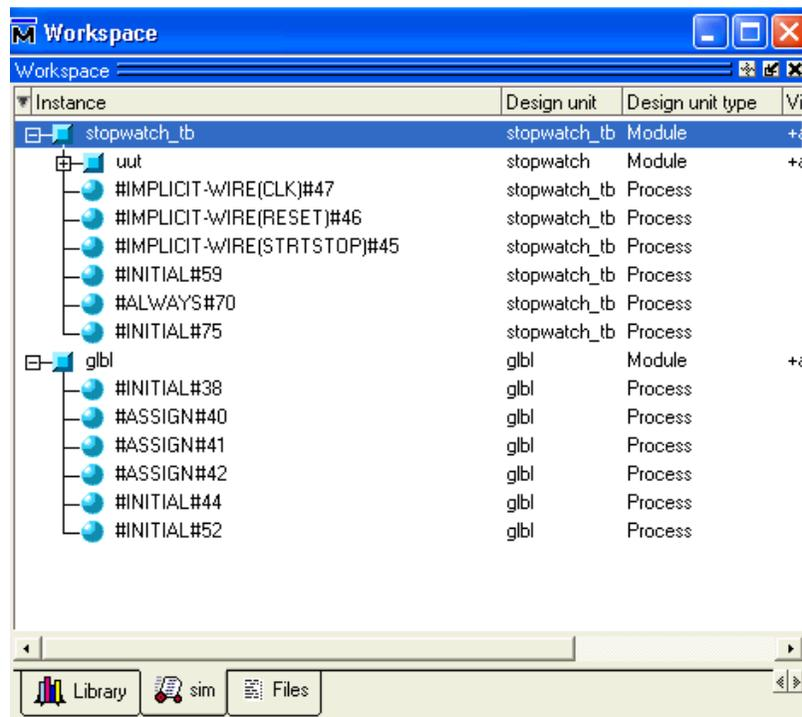

Figure 4-3: Structure/Instance Window - Verilog flow
- In the Structure/Instance window, click the **+** next to **uut** to expand the hierarchy. **Figure 4-3** shows the Structure/Instance window for the Verilog flow. The graphics and the layout of the Structure/Instance window for a schematic or VHDL flow may be different.